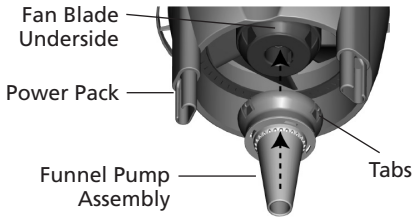

Figure 17
- Attach the Funnel Pump Assembly to the Power Pack by engaging the three tabs on the underside of the fan blade. See Figure 17.